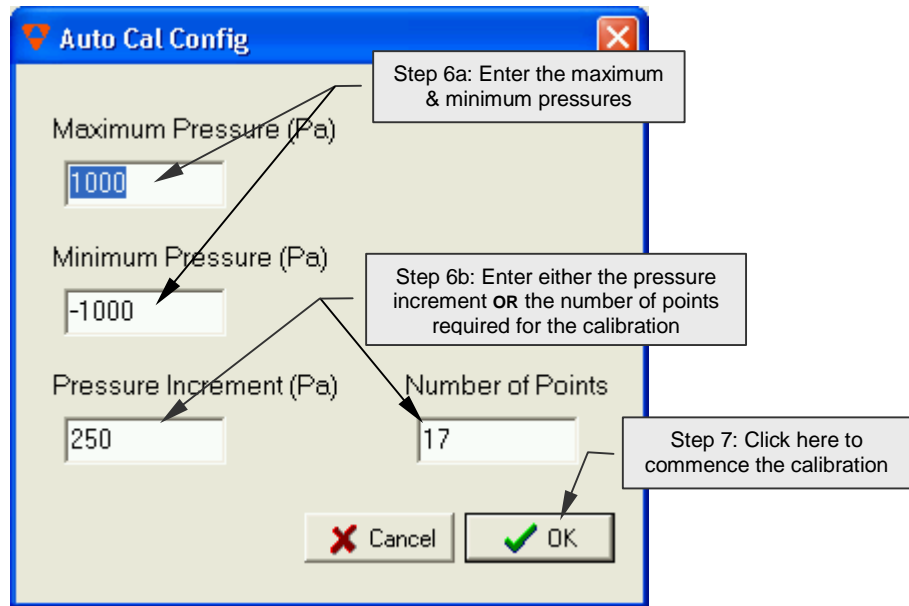

Figure 5: Automated Pressure Calibration: Configuring the calibration
5. Click on the **Auto Calibration** button. The Configuration window will appear (see Figure 5).
- ❏ For configuring the calibration (step 6 & Figure 5), the **Maximum** and **Minimum Pressures** should be the pressure range of the device being calibrated. Generally 5-7 points is enough to provide a good Volts-to-Pressure ratio when calibrating a transducer. However, if linearity and hysteresis must be fully accounted for by the calibration, 15 points or more should be used.